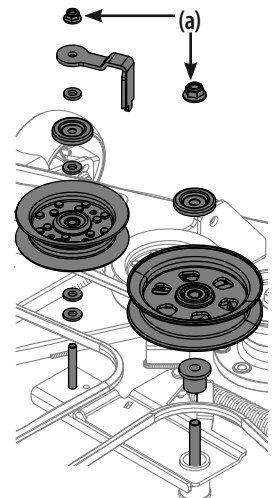

Figure 55
- Remove the two idler pulley assemblies by removing the flange lock nuts (a) at the top of the assemblies, then removing the assemblies from the idler arm. See Figure 55.